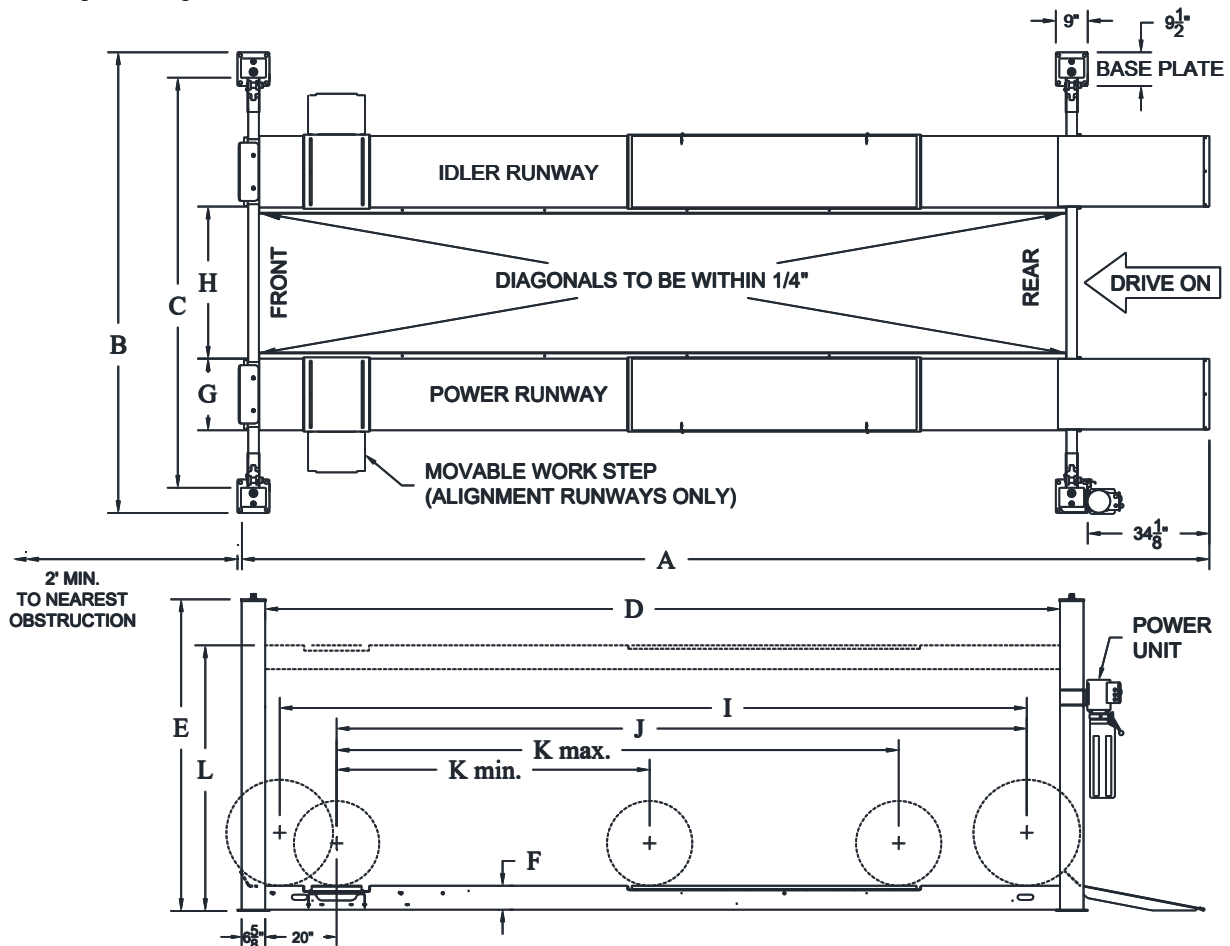
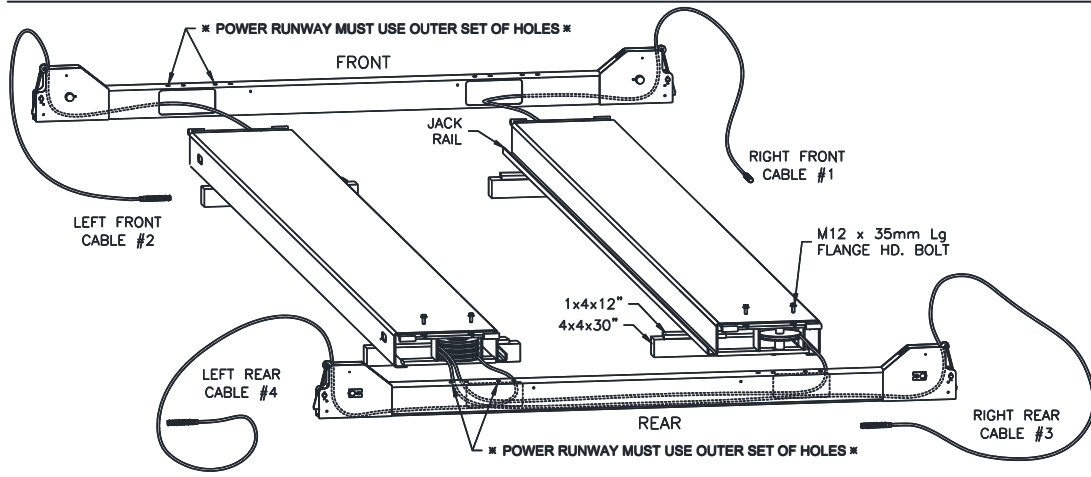

Fig 1 – General Specifications and Service Bay Layout
Fig 4 – Runway Layout
- Lay out the service bay according to the architect's plans or owners instructions, **Fig 1**. Be certain that the proper conditions exist, see page 3.
- 3) Position runways on blocking (*see Fig 4*) per layout lines established in step 1. Use four 30" long 4x4's spanning the width of the runway and four 12" long 1x4's to shim up the jack-rail side of
the runway. Cable #1, #3, & #4 should be extending out from the rear of the power runway and cable #2 from the front of the power runway, **Fig 4**.
- 4) Position the front and rear cross beams, **Fig 4**. (Both cross beams are identical.)
- 5) Reach in through either of the access holes in the cross beam tube and pull out the roll of 4mm dia. plastic air line connected to the air cylinder at the end of the cross beam. Repeat for opposite access hole and position the cross beam near the end of the runways as in **Fig 4**.
- 13) Attach both cross beams to the runways (**Fig. 4**) with M12 x 35mm lg. flange head bolts (two at each end of each runway) being careful not to pinch the air line. Leave the air lines hanging out the bottom of the cross beam access holes at this time, they will be fed in through the runway after the lift is raised. **The outermost power runway slots should be in line with the outermost holes in the top of the cross beam, see Fig. 4.** The idler runway can be installed using the outer or inner sets of cross beam holes, see "Width Between Runways" dimension in **Fig. 1**. Do not torque bolts yet.